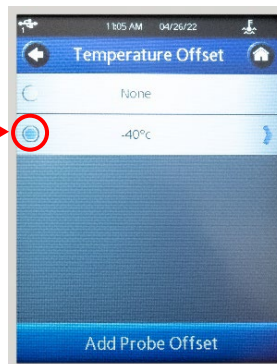

Figure 27: Temperature Offset Screen
16. Select the appropriate temperature offset by pressing the middle or left side of the label with the test temperature in its name. A blue dot will appear on the left side of the label to show it is selected. See Figure 27.
d. You may now select the newly created temperature offset by pressing the middle or left side of the label. A blue dot will appear on the left side of the label to show it is selected. See Figure 27.